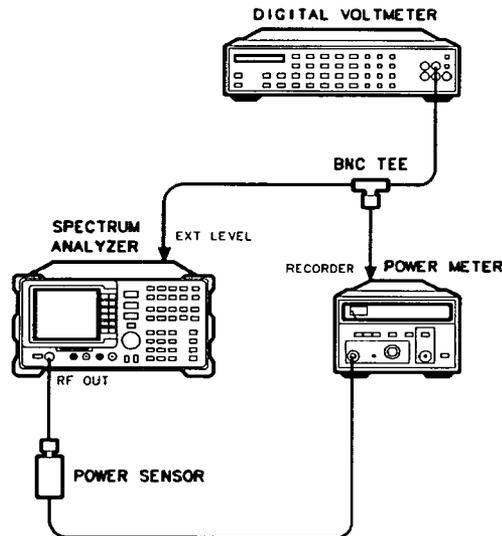

Figure 2-29. External ALC Verification Adjustment
10. Connect the equipment as shown in Figure 2-29. *For Option 011 only:* Use the HP 8483A, with an adapter, instead of the HP 8482A.